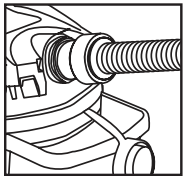

FIGURE 32
51. This vacuum can be used as a powerful blower. To use your unit as a blower unscrew blower port cover located on the backside of the motor housing. **FIGURE 32.**